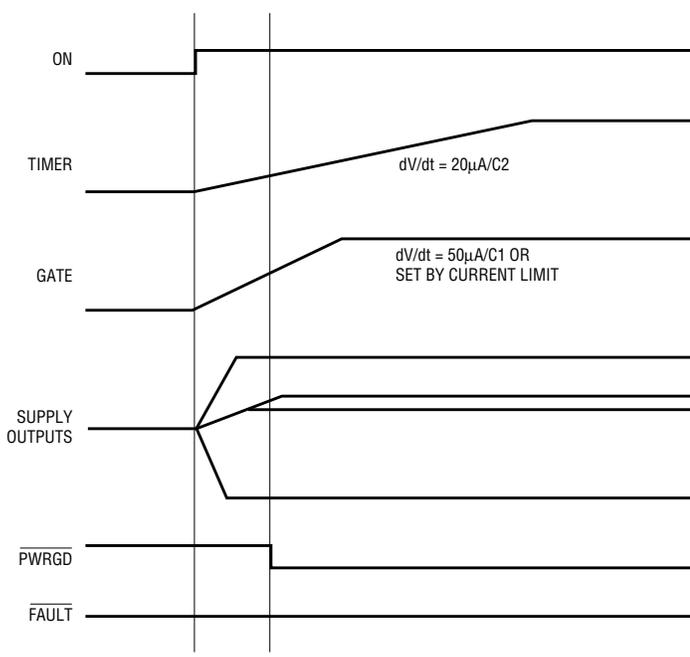

Figure 2. Normal power-up sequence
When the ON pin (5) is pulled high, the pass transistors are allowed to turn on and a 20µA current source is connected to the TIMER pin (4) (see Figure 2). The current in each pass transistor increases until it reaches the current limit for each supply.